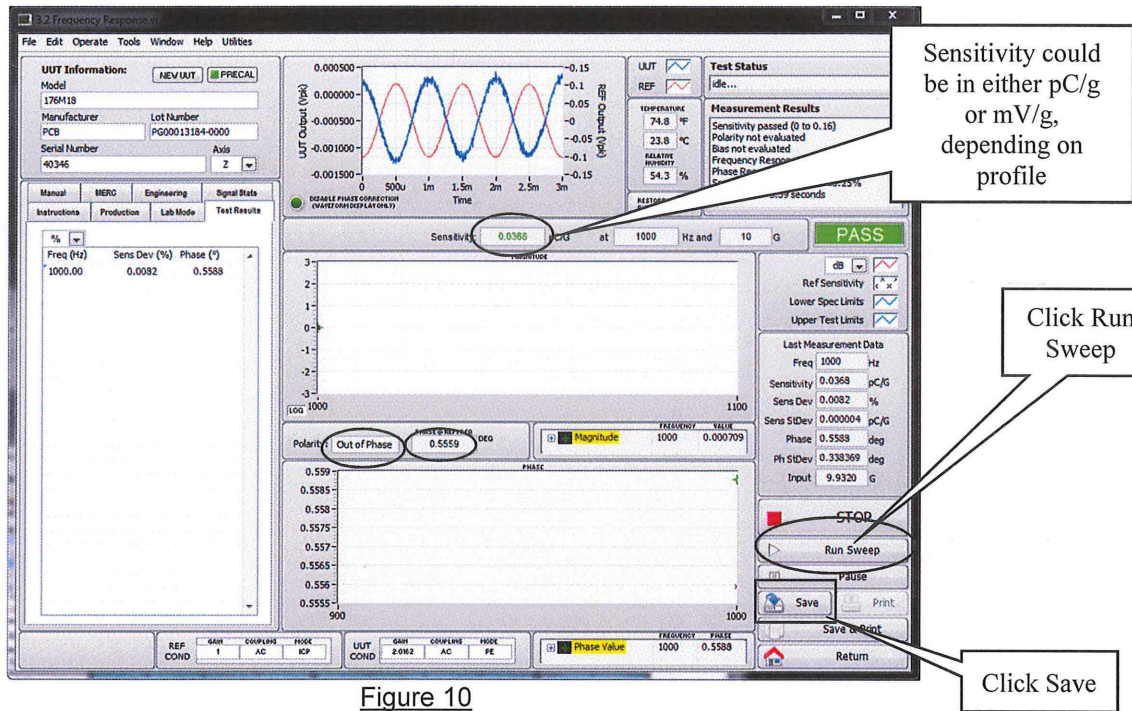

Figure 10
- 2) **Reference** Figure 10.
- 4) Reference Figure 10.